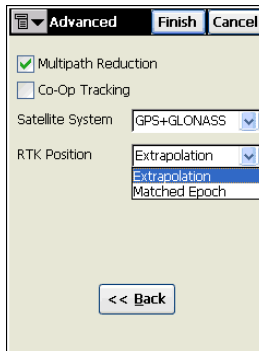

Figure 2-14. Set Advanced Parameters for the GPS+ Mode
14. On the *Advanced* screen, enable *Multipath Reduction* and *Co-Op Tracking* to measure more accurate positions. Also, select the satellite system and RTK position method used during the survey (Figure 2-14 on page 2-13).